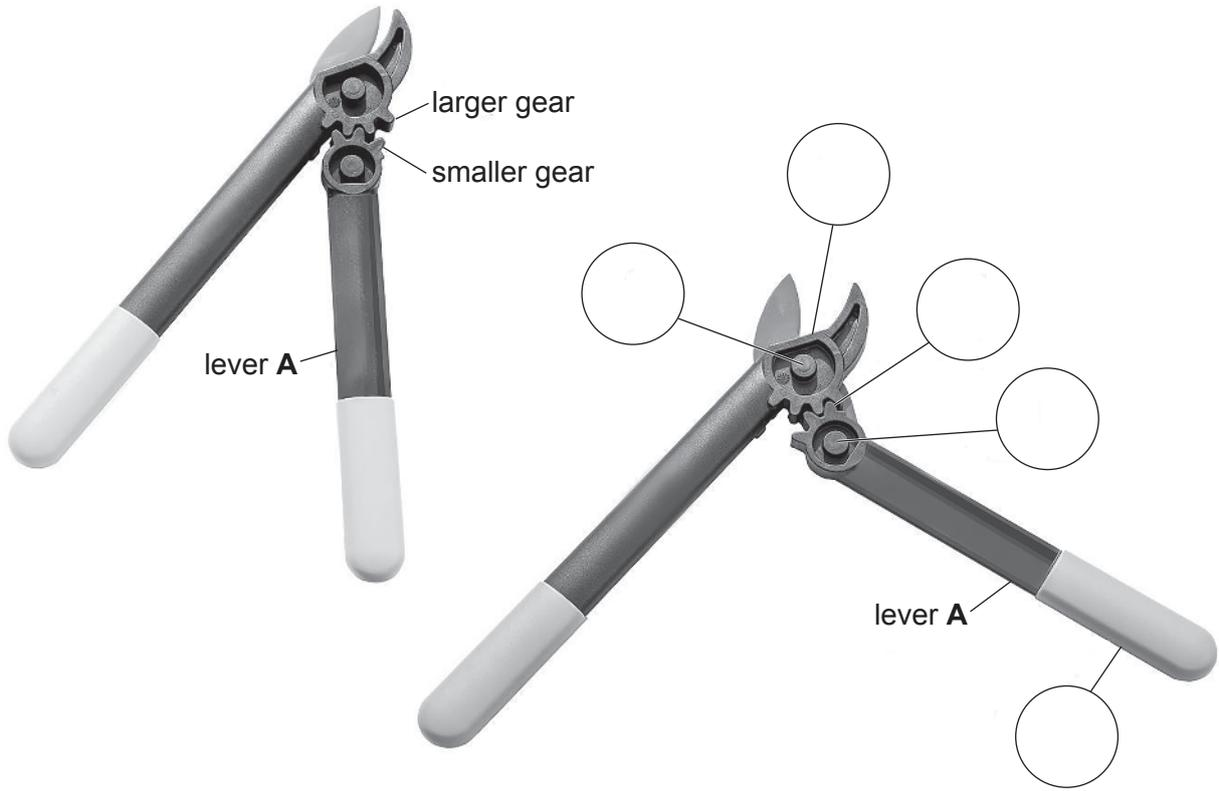

Fig. 11.1
- 11 (a) Fig. 11.1 shows a gardening tool used for cutting branches from trees. It uses a lever combined with a gear mechanism to provide the cutting force.